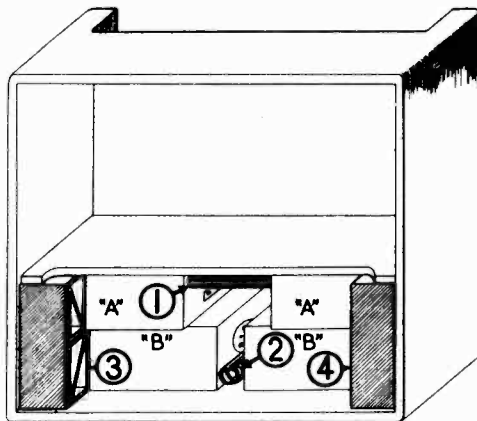

FIG. 1
teries. Insert pieces (3) and (4) at each end as shown in Figure 1. Plug the four prong plug on the battery cable into the socket at the rear of the chassis.